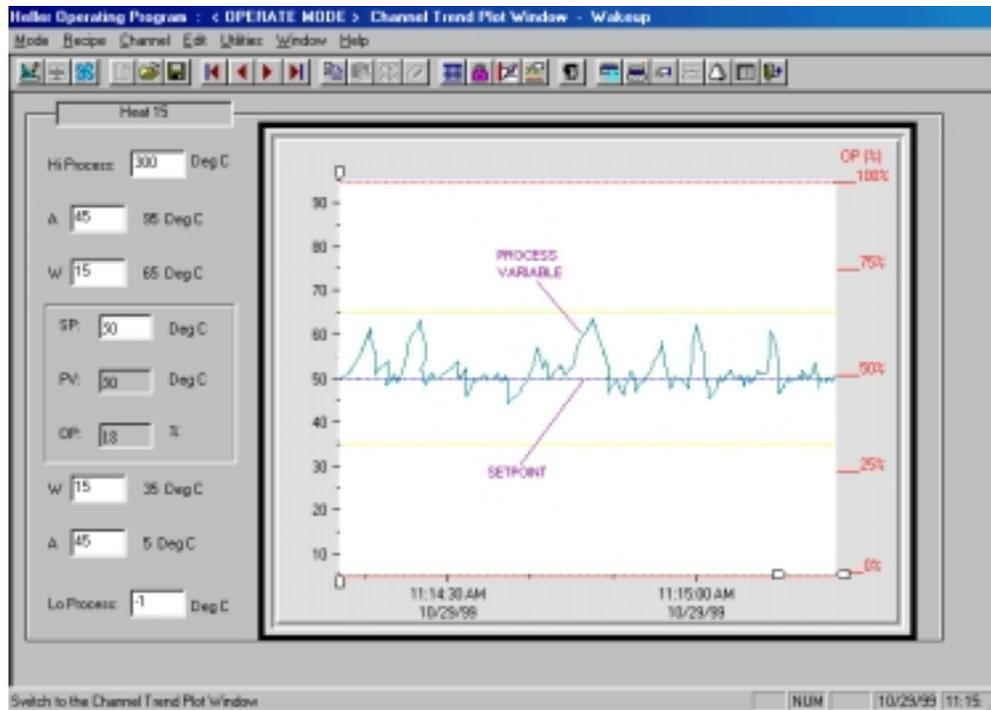

Figure 11
2. Examine the plots on the screen. If the PV (Process Value) curve is very erratic, as shown in **figure 11**, suspect a faulty thermocouple that is shorted to earth ground. Verify this by disconnecting the suspected thermocouple from the controller and checking for continuity between each wire and ground by using a multimeter set to the ohms scale. Perform this test with the thermocouple both hot and cold. If continuity to earth ground exists, replace the thermocouple. (See maintenance section.)